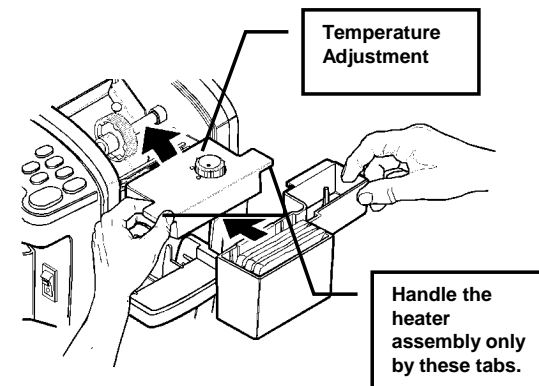

Figure 15 - Handling the Heater Assembly
Finding the correct setting for the tape you are using is a matter of simple testing. Set the adjustment knob to a low or middle setting to start and test the tape for performance. Use the lowest temperature setting that best meets your needs. See Figure 15. Refer to Section 3 on how to seal with gummed tape.
**CAUTION:** The bottom of the heater assembly gets **HOT!** Handle the heater only by the tabs protruding from the sides of its top. See Figure 15.